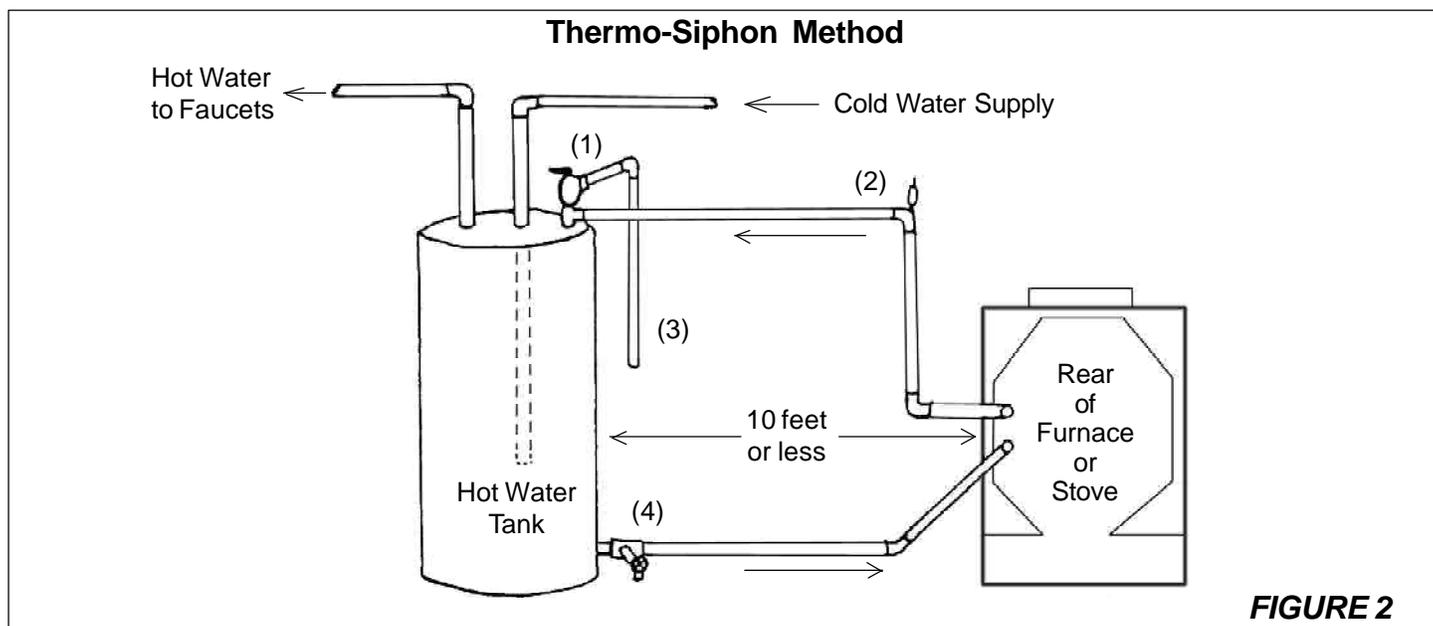

FIGURE 2
7. Place the coil through the holes form the inside of the firebox and run a washer and nut down each leg on the outside of the stove. Before tightening the nuts down completely, wrap a piece of hi temp fiberglass rope gasket, provided with the kit, around each threaded leg between the washer and the outside of the firebox. Tighten the locknuts down securely to insure an airtight installation. The heat exchanger coil may be installed vertically as show in figure 2, or horizontally, in which case it does not matter which leg is plumbed to or from the hot water heater as they will both be at the same level.